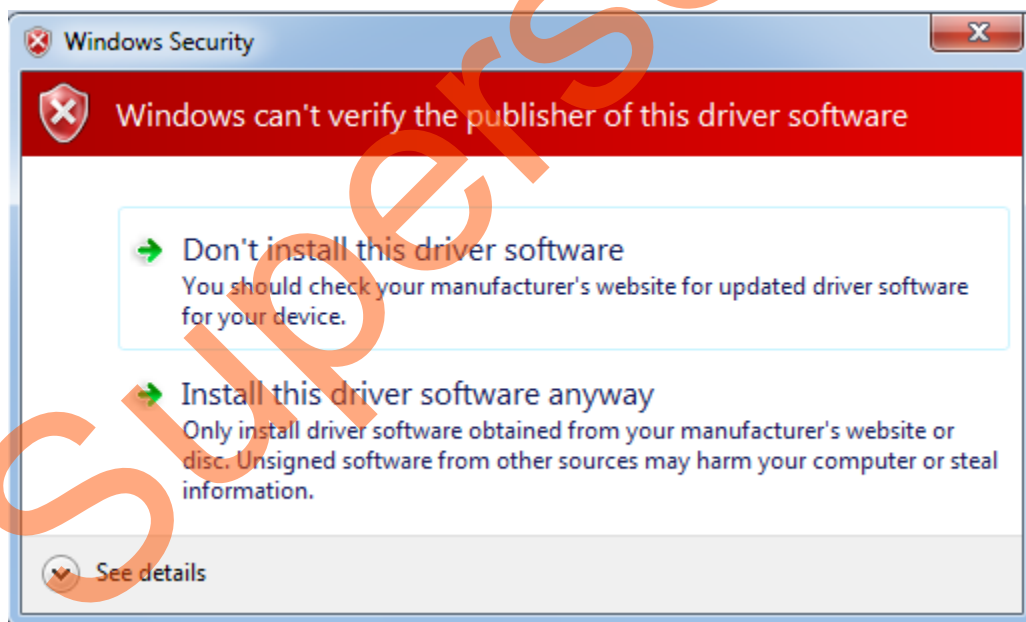

Figure 64 • Windows Security
- Click **Install this driver software anyway** if the window appears as shown in Figure 64.